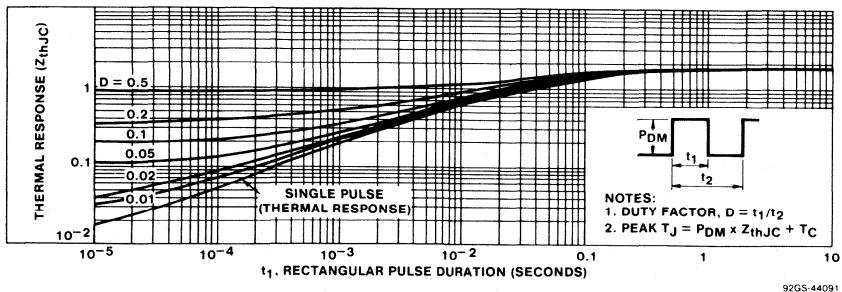

Fig. 5 - Maximum effective transient thermal impedance, junction-to-case vs. pulse duration.
3. Repetitive Rating: Pulse width limited by max. junction temperature. See Transient Thermal Impedance Curve (Figure 5)